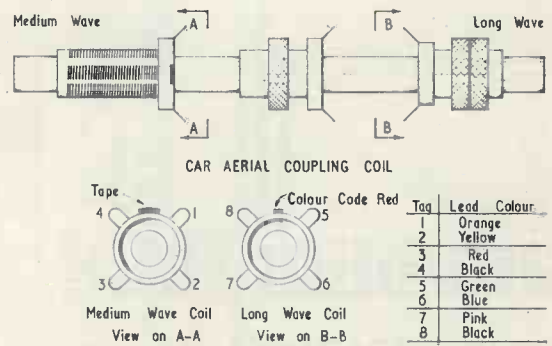

Fig. 5. Connections to the ferrite frame assembly
6. Fit and wire the ferrite rod. The rod is secured by a plastic clamp bolted to the rear of the two-gang capacitor. The connections to the ferrite frame coils are shown in Fig. 5, the numbered tags corresponding to the similarly numbered points (preceded by the letters "FR") in Fig. 2. The car aerial coupling coil is not wired at this stage.